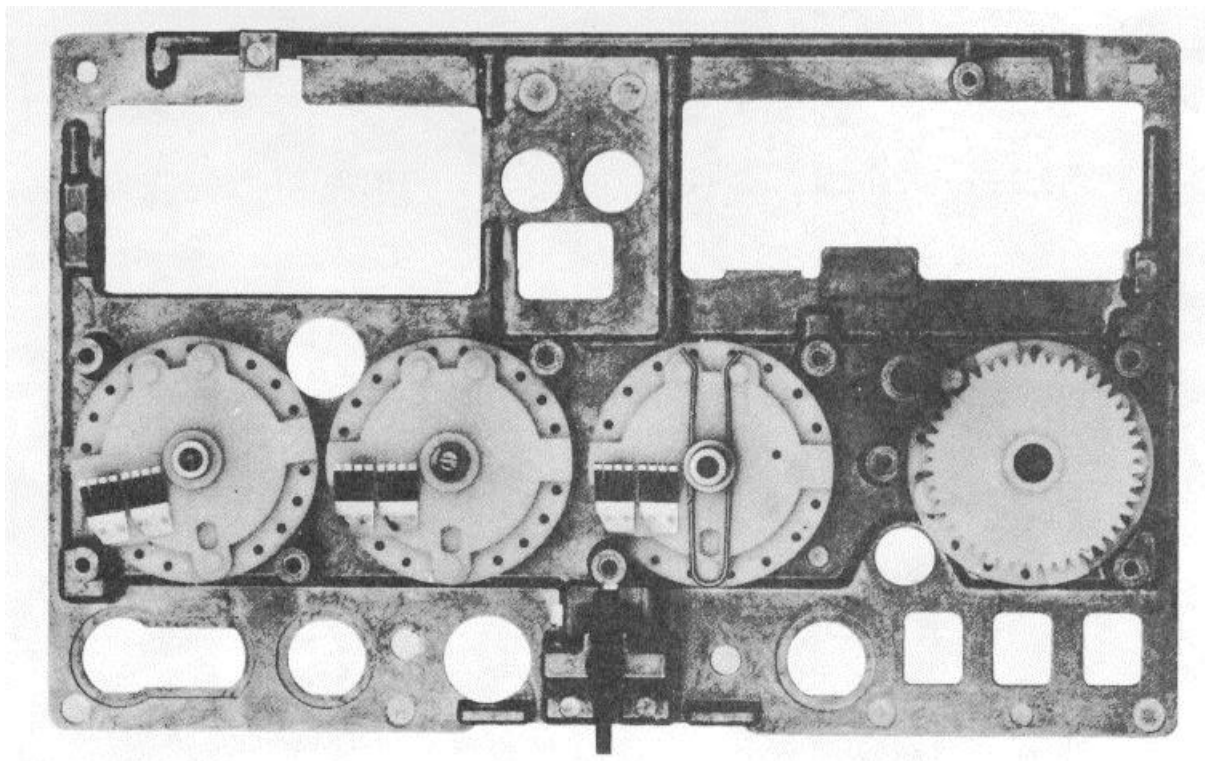
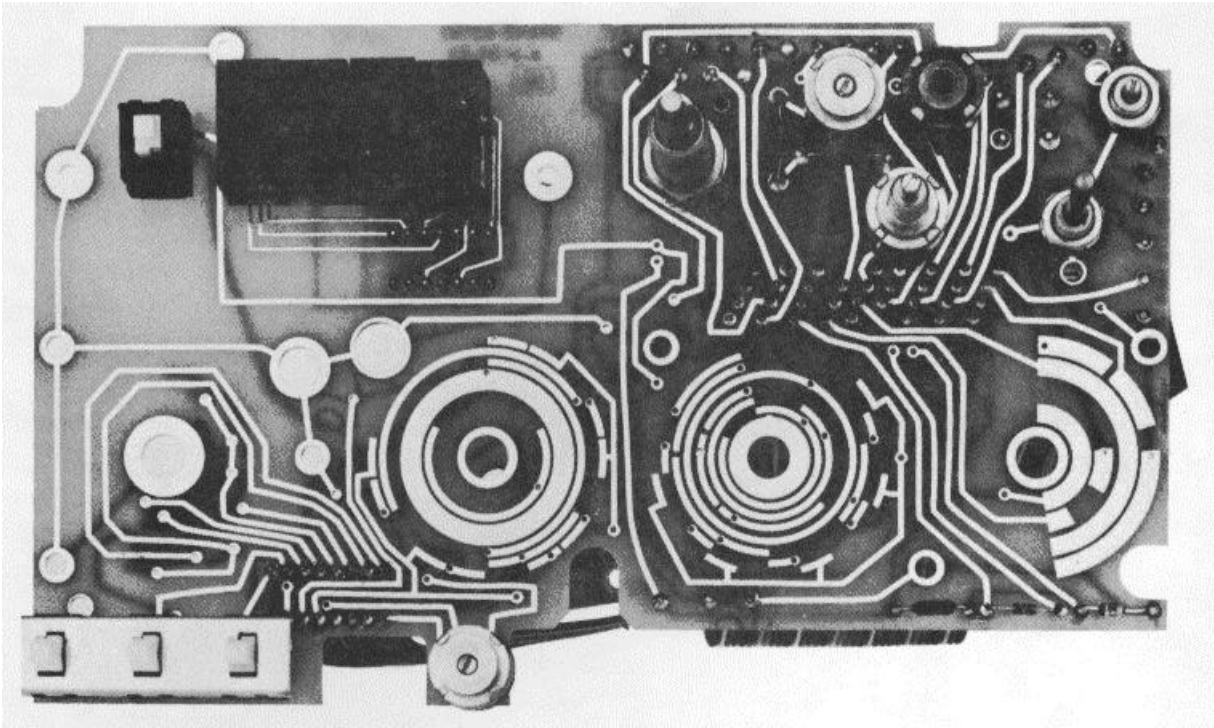

Figure 8-51. Proper Positioning of Rotors on Front Switch Diecast
Figure 8-52. Front View of Switchboard Assembly A2A1
- d. Lightly grease long side of SWEEP TRIGGER Shaft (28) and insert SWEEP TRIGGER rotor assembly into left-most bushing in Front Switch Diecast (1). Position rotor so that Ball Bearing (10) aligns with stop boss on left side of Front Switch Diecast (see Figure 8-51).
- f. Lightly grease long side of SWEEP TIME/DIV Shaft (28) and insert SWEEP TIME/DIV rotor assembly into next bushing in Front Switch Diecast (1) (see Figure 8-51).
- h. Lightly grease long side of Frequency Span Shaft (9) and insert FREQ SPAN/DIV rotor assembly (9-16) into next bushing in Front Switch Diecast (1). Position FREQ SPAN/DIV rotor assembly so that stop boss on Front Switch Diecast does not fall within small span between Roll Pins (12), as shown in Figure 8-51.
- k. Set Attenuator Drive Rotor (8) over Anticrush Drive Hub (7) with Attenuator Drive Rotor gear facing up. Long pin on Attenuator Drive Rotor should protrude through curved slot in diecast.
- l. Lightly grease gear end of Attenuator Shaft Assembly (17) and insert into Front Switch Diecast (1) as shown in Figure 8-51. Place metal Washer (18) on shaft.
- m. Clean contact fingers on all rotors using lint-free cloth and isopropyl alcohol/distilled water mixture. All rotors should be in proper position as shown in Figure 8-51.
- c. Use a 1/4-inch nut driver to tighten Hex Nuts (22) and Screws (19) fastening DPM Mounting Brackets (20, 21) to Front Switch Board Assembly.
- d. Use a 3/8-inch open-end wrench to tighten Hex Nut (36) and Lockwasher (35) attaching FREQUENCY ZERO Potentiometer (37) to Front Switch Board Assembly. Use a no. 2 spline (Bristol) wrench to install FREQUENCY ZERO Knob (34).
- e. Use a 3/8-inch open-end wrench to tighten Hex Nut (36) and Lockwasher (35) attaching VIDEO FILTER Potentiometer (39) and metal Washer (38) to Front Switch Board Assembly.
- f. Use a 1/2-inch open-end wrench to tighten inner Hex Nut (32) and Washer (33) attaching Dual Tune Pot assembly (25, 32, 33, 40-51, 77) to Front Switch Board Assembly. Note that Roll Pin (12) aligns with hole in switch board to locate Dual Pot Bracket (45); Washer (33) between bracket and switch board is critical to proper switch operation. See Figure 8-52 for front view of assembled switch board.
- g. Check Dual Tune Pot assembly for smooth operation and proper gear meshing; disassemble and lightly grease shafts if necessary. Install second Hex Nut (32) mid-way onto Coarse Tune Shaft Bushing (42).
- h. Set Front Switch Board Assembly into place on partially-assembled Front Switch Assembly and use a Stud (59) on right-most side of switch assembly to loosely fasten switch board to Front Switch Diecast (1).
- i. With one Stud (59) in place but not tight, twist left side of Front Switch Board Assembly up approximately 1/8-inch to fasten switch board under Front Switch Diecast support arm (upper left corner) and align switch shafts.